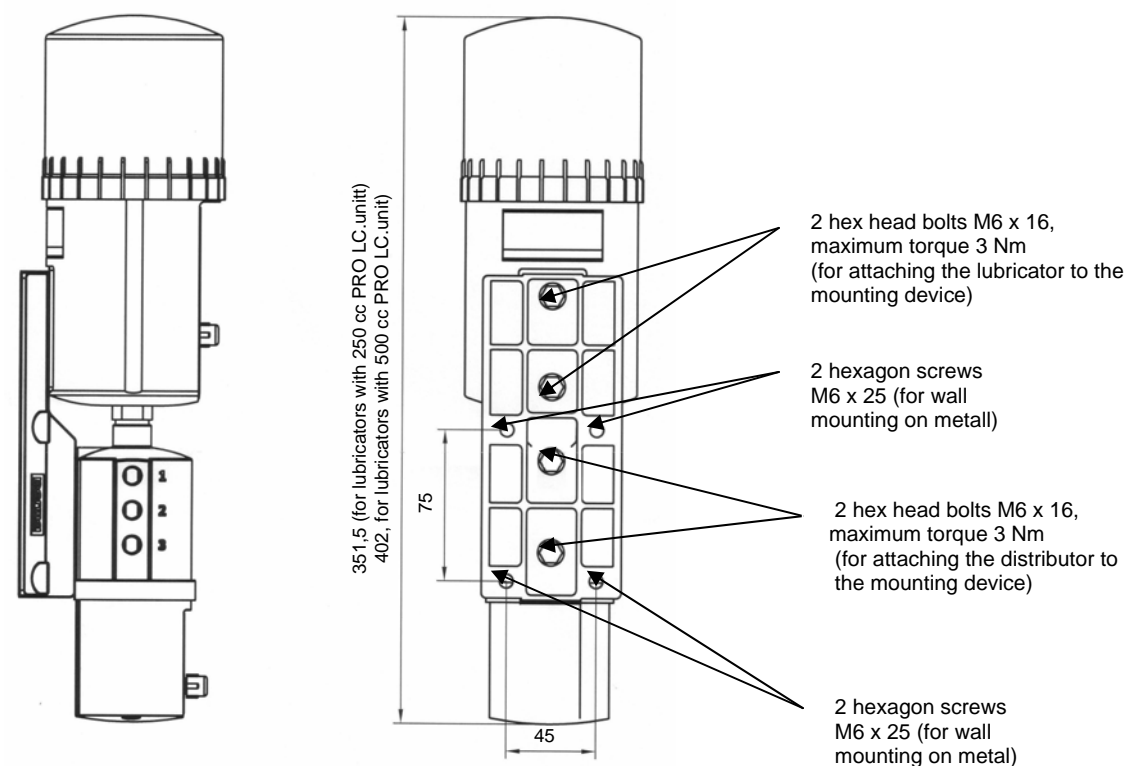

Figure 6
- ◆ Screw the mounting device together with the lubrication system onto a support of your system. For the position of the bores of the four fixing screws refer to figure 6 below. You have to use four hexagon screws M6 x 25 (e.g. on metal ground).